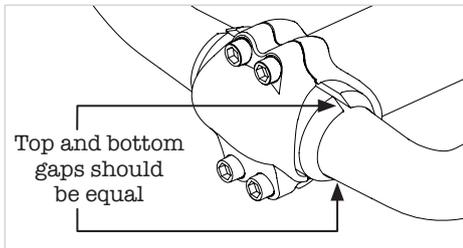

Figure 2
3. Align the shims so the gap between the shims is perpendicular to the clamp bolts. Keep an equal gap between the shim parts. (figure 2)